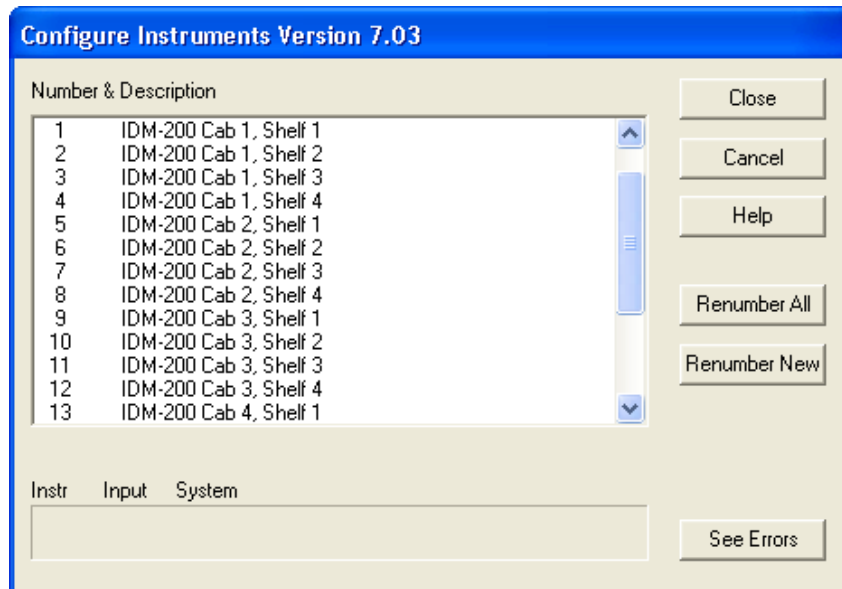

Fig. 3. MCB Numbering and Descriptions.
- 3) The MCB Configuration program will locate all of the powered-on ORTEC MCBs on the local PC and the network, display the *Master Instrument List* of instruments found (Fig. 3).